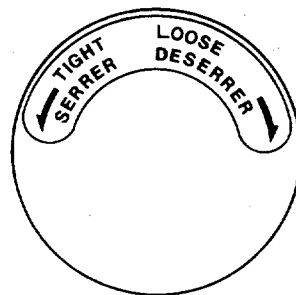

FIGURE 19.
4. If it is necessary to add fluid, unscrew the cap on the expansion tank. The cap has left hand threads. See figure 19. Remove the rubber bladder. Add fluid using a funnel. Do not overfill.